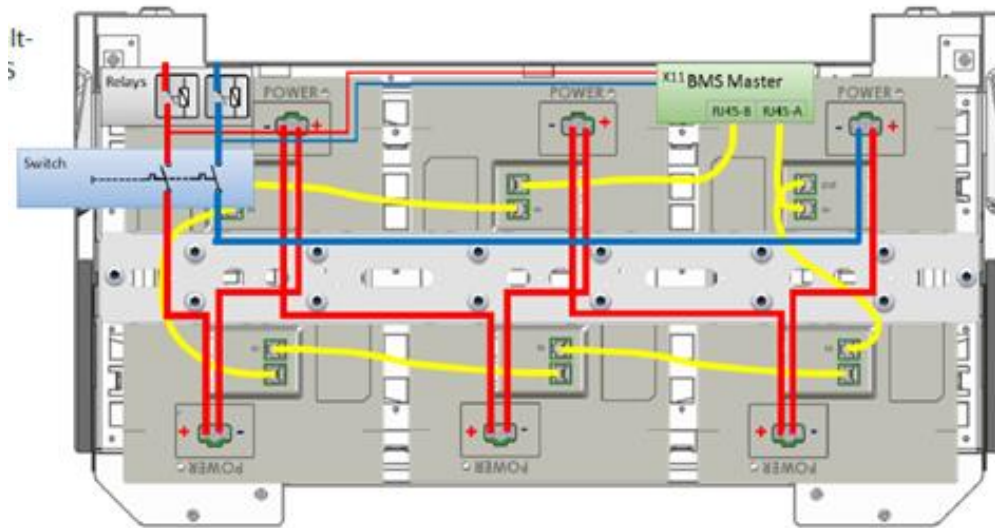

Figure 5: Power path with switching devices and BMS
2. Insert the power plug for the respective Energypack until it clicks into place. For example, refer to Figure 5.